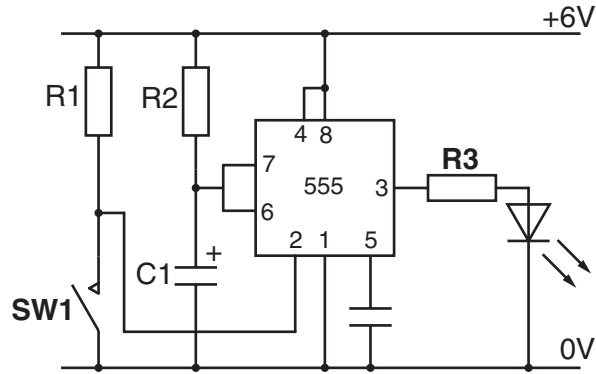

Fig. 5
- 12 Fig. 5 shows a 555 timer circuit used in the construction of a kitchen timer.